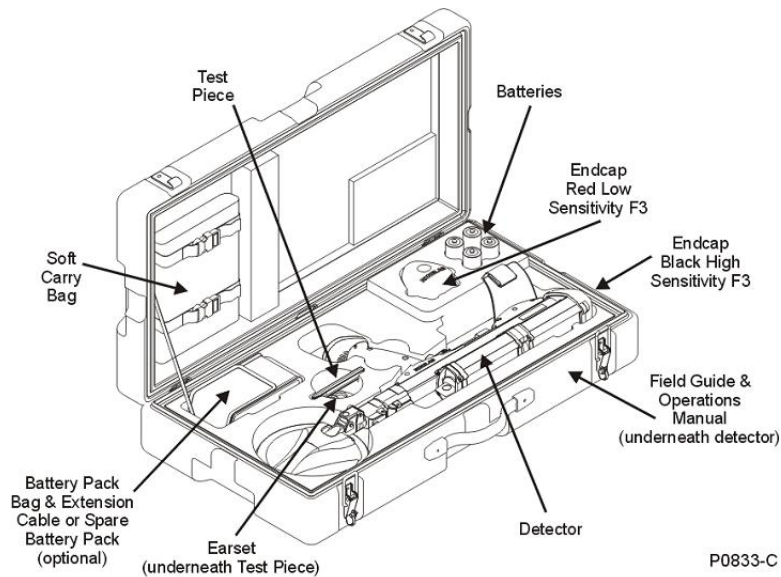

Figure 1: F3 Packed in its Hard Case
a. Whenever a detector is returned for servicing, mechanical and functional tests must be completed to confirm and/or identify the fault. Figure 1 illustrates the complete detector when packed in its hard case. A visual inspection should be conducted to ensure all parts are present and any missing items noted and replaced as necessary.